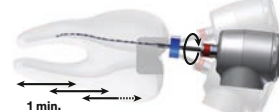

Figure 3
5. Use the XP-F for 1 minute (approximately 60 strokes), using slow and gentle 7-8 mm longitudinal movements to contact the full length of the canal (Fig. 3). Make small multidirectional movements and avoid removing the file from the canal.